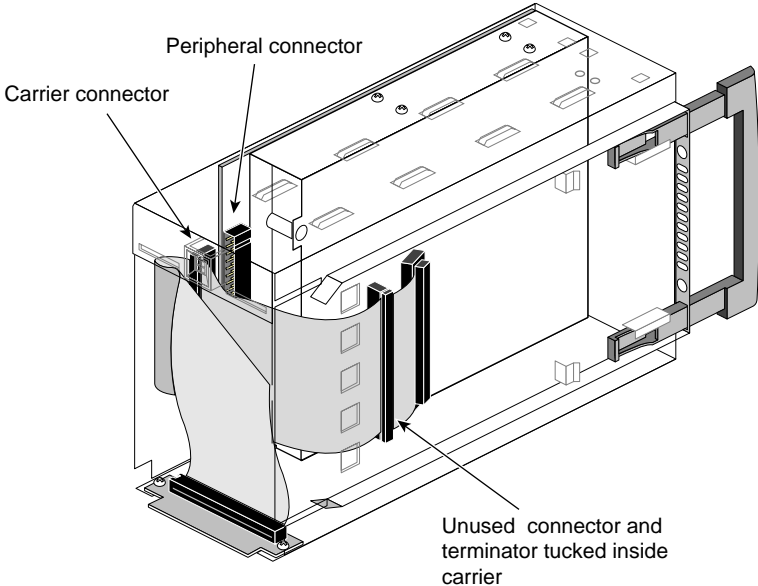

Figure 2-14 Attaching the SCSI Cable to a 5.25-Inch Drive
- 6. Attach one of the connectors on the SCSI cable to the drive. Use whichever connector fits conveniently for the position of the drive's SCSI connector. See Figure 2-14.